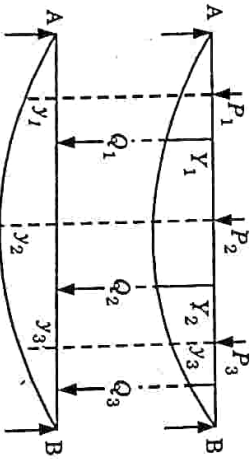

Fig. 3.2.1.
1. Let a structure AB carries two system of forces  $P_1, P_2, P_3$  and  $Q_1, Q_2, Q_3$ . Fig. 3.2.1 shows both the system of forces separately.